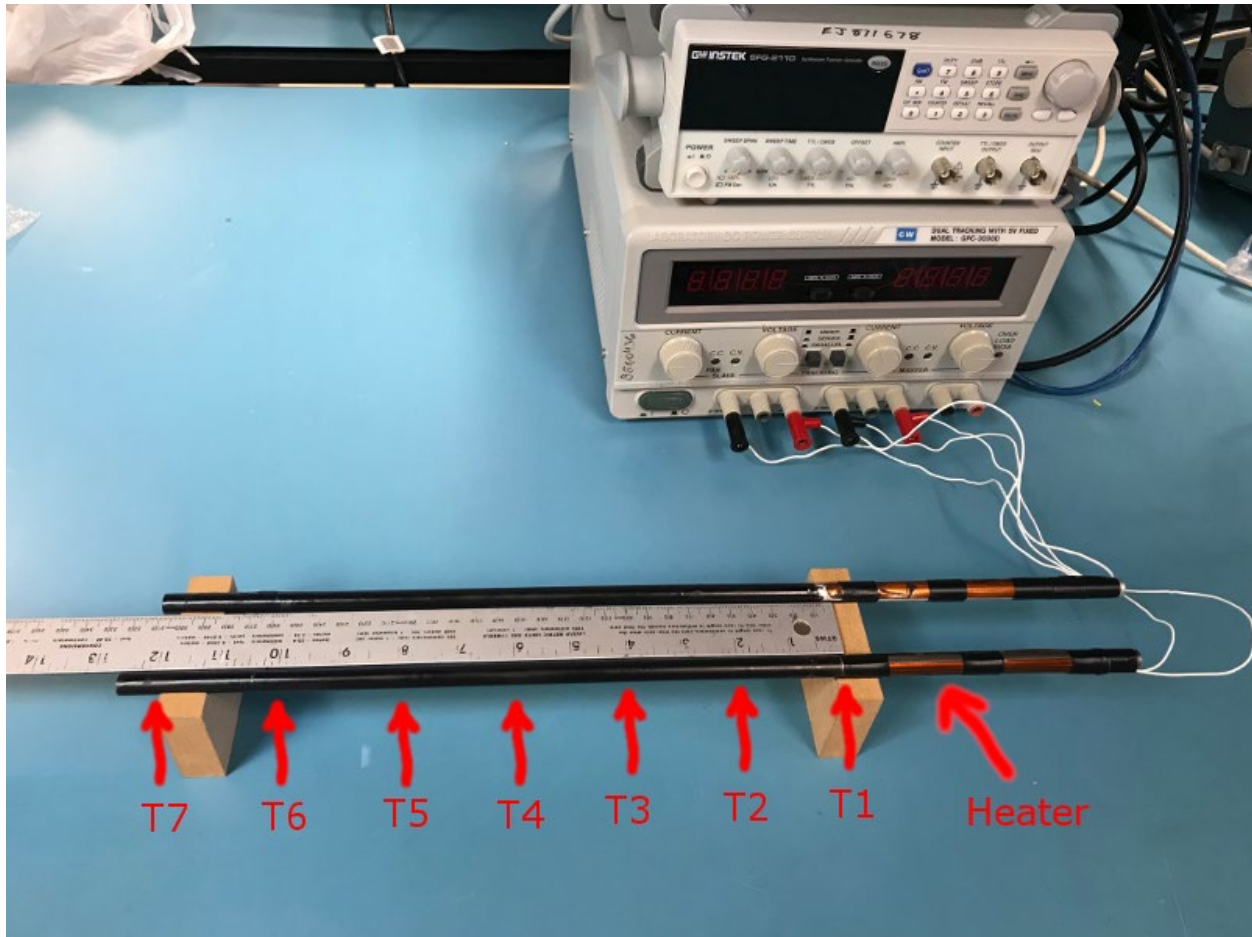

Figure 3: Experimental Setup
Small electric heaters were attached to one side of an aluminum bar and a steel bar, and the bars were held above the benchtop by wooden brackets (see Figure 3).
One end of each bar was heated and an infrared (IR) camera was used to take an image every 2 minutes. The temperature was then measured at 7 locations along each bar (the bars are 12 inches long (0.3 m) and have a diameter of 0.01 m). The 7 locations are marked T1 through T7 in Figure 3 and are spaced 2 inches apart. The measured temperature values are in the files `steel_bar.xlsx` and `alum_bar.xlsx` (which are available on the course website). The bars were painted black to improve the IR image quality.